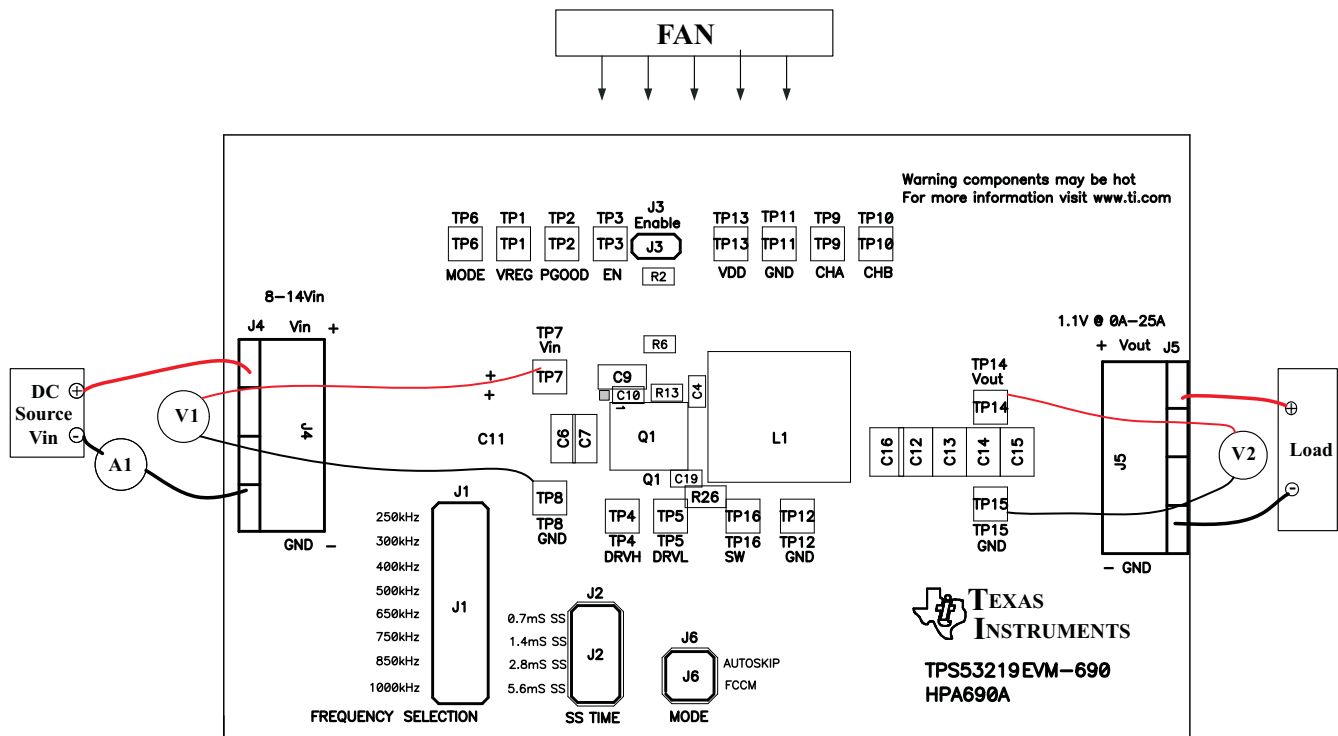

Figure 3. TPS53219EVM-690 Recommended Test Set Up
Voltage Source: The input voltage source V_{in} must be a 0-V to 14-V variable dc source capable of supplying 10 Adc. Connect V_{in} to J4 as shown in Figure 3.
Figure 3 is the recommended test setup to evaluate the TPS53219EVM-690. Working at an ESD workstation, make sure that any wrist straps, bootstraps or mats are connected referencing the user to earth ground before power is applied to the EVM.
1. Prior to connecting the dc input source V_{in} , it is advisable to limit the source current from V_{in} to 10 A maximum. Ensure that V_{in} is initially set to 0 V and connected as shown in Figure 3.
Place a fan as shown in Figure 3 and turn on, ensuring that air is flowing across the EVM.
1. Set up EVM as described in Section 5 and Figure 3.